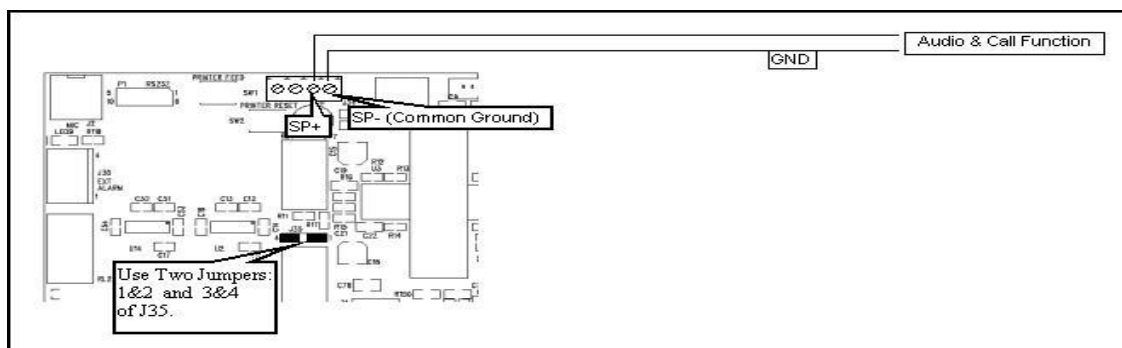

Figure 23. Two-Wire Intercom Configuration
8. Secure the Line (Black), Neutral (White) and Ground (Green) wires to the appropriate terminal screws. (See Figure 23). Re-tighten the screws to hold the wires in place.